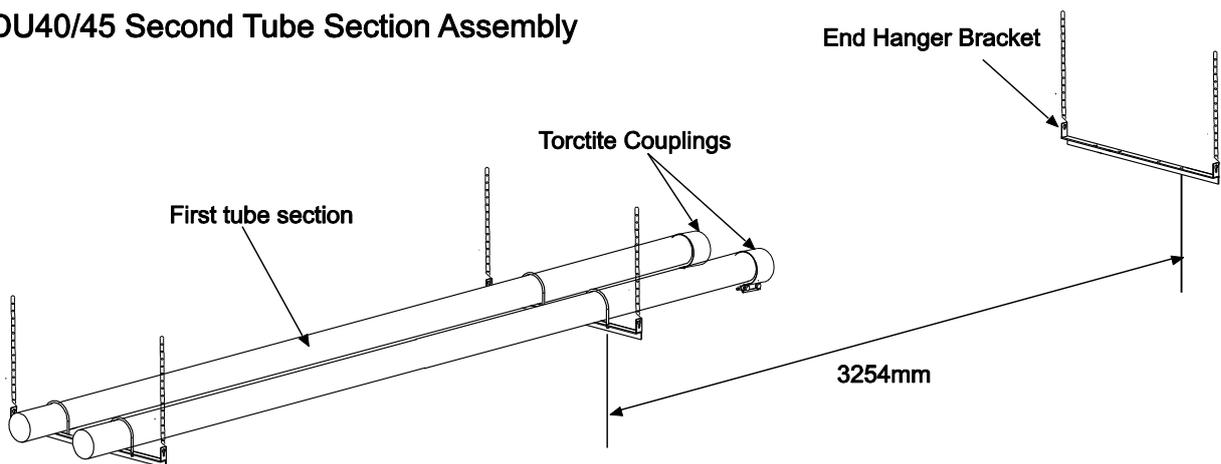

Fig. 21e
- For models ADU 40/45 suspend the hanger bracket for the second section of tube, raise the tubes into position and join the tube sections together using Torcrite couplings as described in Section 10.2 "Tube Coupling Details". Fasten the tubes onto the hanger bracket. See figure 21e, f and g below for installation sequence.